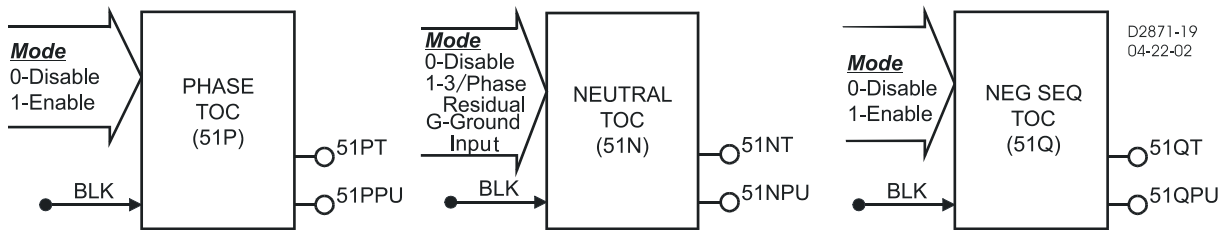

Figure 4-9. Time Overcurrent Logic Blocks
Figure 4-9 shows the 51P, 51N, and 51Q elements. The 151N element is identical in configuration. Each element has two outputs: Pickup (PU) and Trip (T). A *BLK* (Block) logic input is provided to disable the